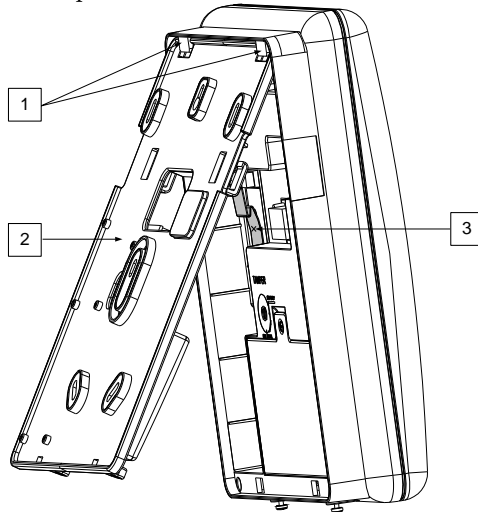

Figure 3: Mounting Bracket removal
- b. Gently, pull up the mounting bracket to a 45° angle and slide it down to release the mounting bracket (2, Figure 3) from the two locking tabs (1, Figure 3) at the top of the unit.
4. According to the location of the wall cables, route and insert the wires and cables via the cable's openings (3) (including AC cable and telephone cable), see figure 3.
5. If required, remove cable knockouts (5) to allow wire passage.
6. Anchor cables with dedicated hooks (4).
2. According to the location of the network cable, route and insert the cable via the cable's openings (see Figure 3).
3. If required, remove cable knockouts (5, Figure 3) to allow cable passage.